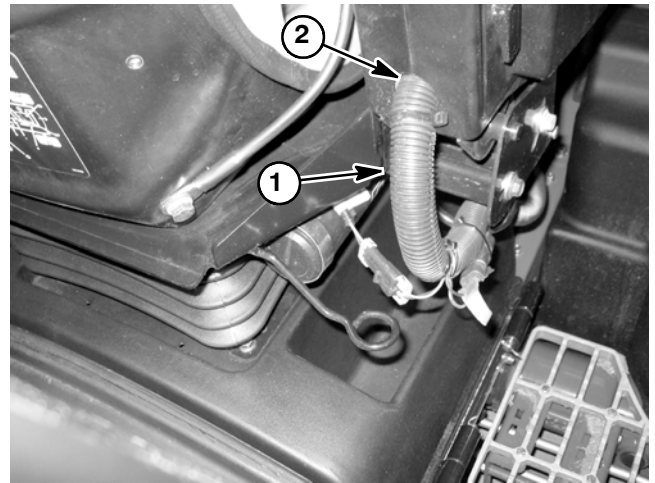

Figure 14
2. Position covers to control arm. As LH cover (item 16) is placed, plug wire harness connector to headlight switch. Also, make sure that wire harness is routed correctly through cover openings (shown in Fig. 14).
3. Secure each cover to control arm with five (5) washer head screws (item 12). Install screw (item 28) and lock nut (item 23) to secure covers at front of control arm.